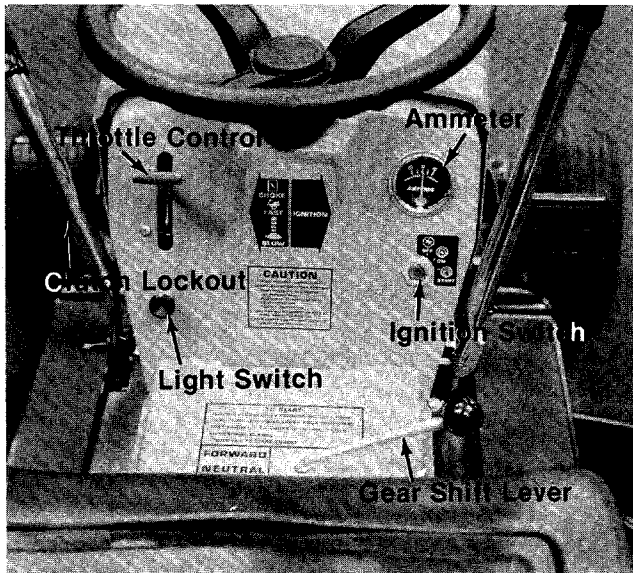

FIGURE 14.
a. **Throttle Control.** The throttle control is used to regulate the engine speed and choke the engine. The engine should be operated from $\frac{3}{4}$ to full throttle when operating the cutting deck or snow thrower (optional). See figure 14.
b. **Gear Shift Lever.** The gear shift lever is used to shift into "FORWARD," "NEUTRAL" or "REVERSE." See figure 14.
h. **Ammeter.** The ammeter registers the rate of battery charge or discharge. The ammeter should register on the plus side (+) when the engine is running in the fast position until the battery is completely charged. With a fully charged battery or with the engine idling, the ammeter will not show a charge. See figure 14.
i. **Light Switch.** Push the light switch to turn on the lights. The lights will only operate when the engine is running. See figure 14.
Turn the key to the "START" position to start the engine. When the engine is running, let the key return to the "ON" position. To stop the engine, turn the key to the left to the "OFF" position and remove it to prevent accidental starting. See figure 14.
4. Set the throttle control in the "CHOKE" position. See figure 14.
5. Turn the ignition key to the "START" position. When the engine is running, let the key return to the "ON" position. See figures 14 and 20.